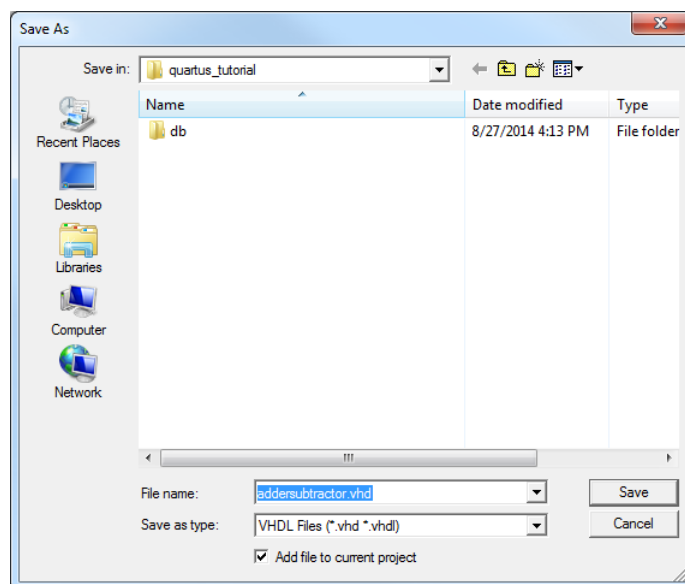
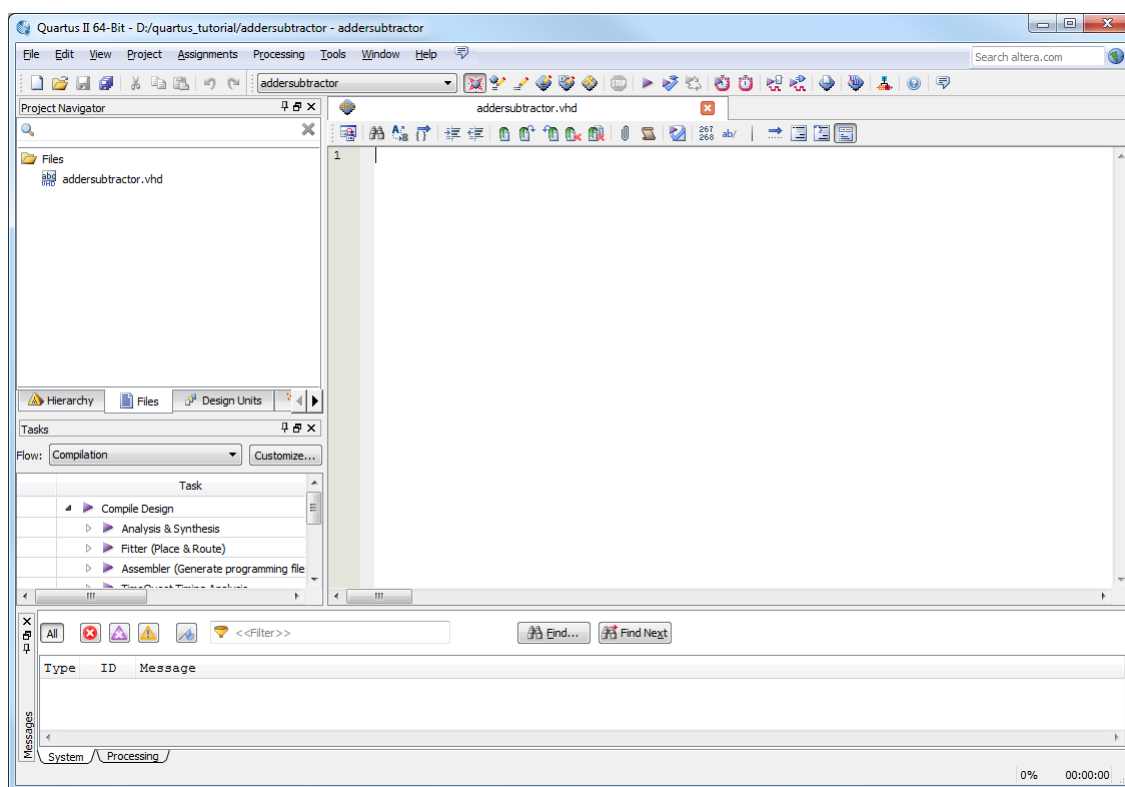

Figure 15: Name the file.
Figure 16: Text Editor window.
2. The first step is to specify a name for the file that will be created. Select **File > Save As** to open the pop-up box shown in Figure 15. In the field labeled **Save as type** choose **VHDL File**. In the field labeled **File name** type *addersubtractor*. Put a checkmark in the box **Add file to current project**. Click **Save**, which puts the file into the directory *quartus_tutorial* and leads to the Text Editor window shown in Figure 16.